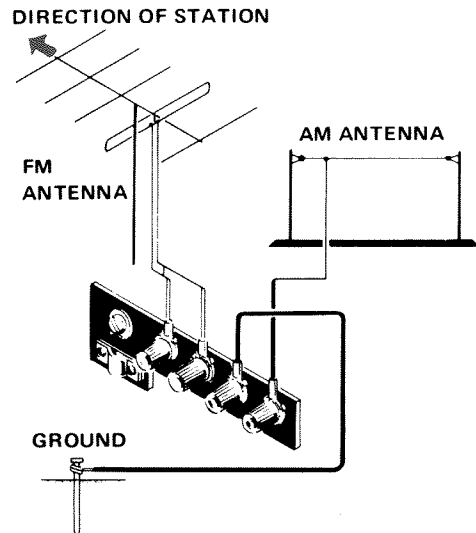

Fig. 7
- If orientation of the T-type antenna does not eliminate background noise, connect an outdoor antenna to the antenna terminals shown in Fig. 7. Instead of an FM antenna, a combination FM/TV antenna may be used.
- If the lead antenna does not give satisfying results, erect an outdoor antenna and connect it as shown in Fig. 7. Special construction is not required; vinyl-insulated wire may be stretched between two masts or other supports.